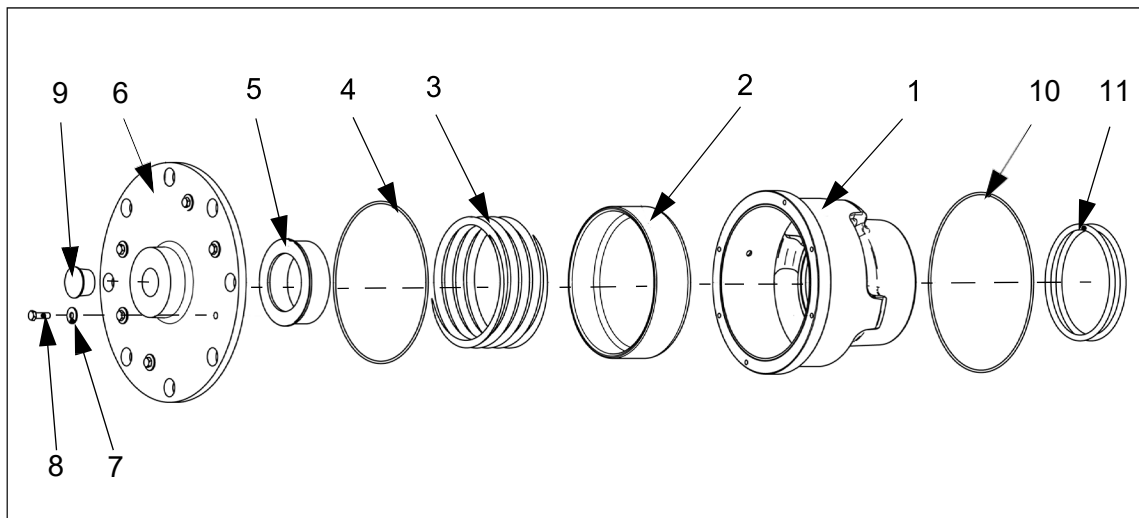

Fig. 12:
4. Remove O-rings (4 and 10, Fig. 12) and clean all surfaces.
5. Insert new spring (3, Fig. 12) and piston (2, Fig. 12) in the basket (1, Fig. 12).
6. Insert O-rings (4 and 10, Fig. 12) at the discharge valve and basket.